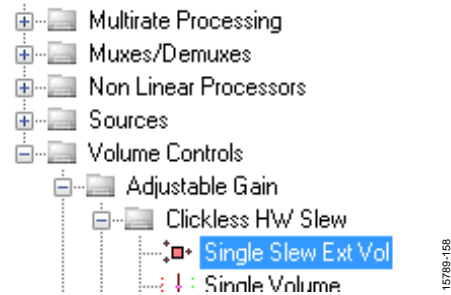

Figure 56. Single Slew Ext Vol Block Selection
- a. From the **Volume Controls > Adjustable Gain** > **Clickless HW Slew** folder, click **Single Slew Ext Vol** (see Figure 56) and drag it into the project space to the right of the toolbox.